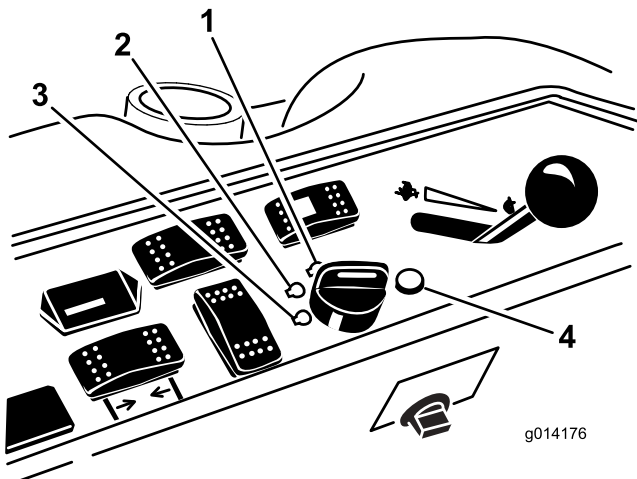

Figure 21
6. Turn the ignition key clockwise to the RUN position (Figure 21).